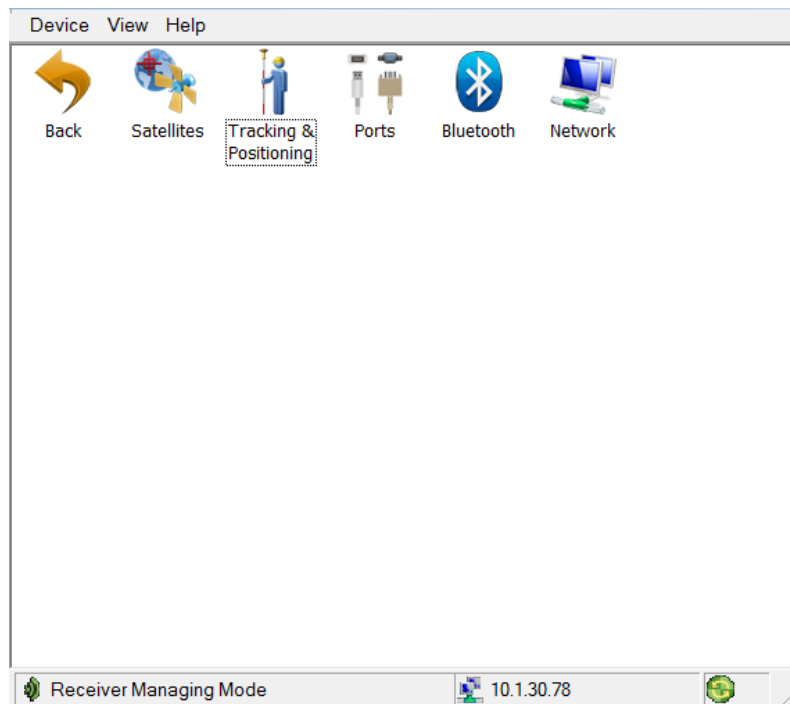

Figure 26: TRU – Receiver Settings
1. In TRU, click **Device** ▶ **Application Mode** ▶ **Receiver Managing** ▶ **Receiver Settings**. The **Receiver Settings** screen appears (Figure 26).